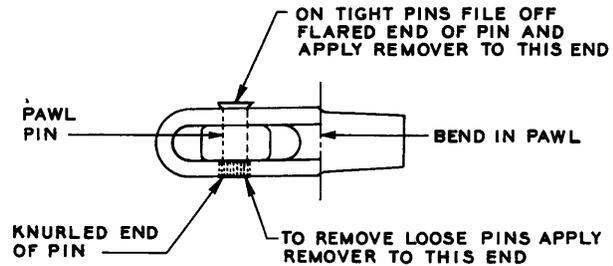

Fig. 11 – Rotary Pawl with Headless-Type Pawl Pin Having Knurl Flush
(1) Check the pawl for wear using the P-220366 dental mirror. Check the rotary pawl for cracks in the bend in the pawl (see Fig. 11). If the vertical pawl on an armature with an armature arm requires replacement, replace the vertical armature assembly in accordance with Section 030-705-802.
(2) Determine whether the pawl pin is tight or loose in the pawl. To do this, hold the armature unoperated with the KS-6320 orange stick and move the pawl manually. If there is more than 0.015-inch play between the pawl and pin as gauged by eye and feel, remove the pin and pawl if required, in accordance with 3.04 for vertical pawls and 3.14 for rotary pawls. After removing the pawl pin, check the parts as covered in 3.03.
3.17 Removing Rotary Pawl Pin per Fig. 11